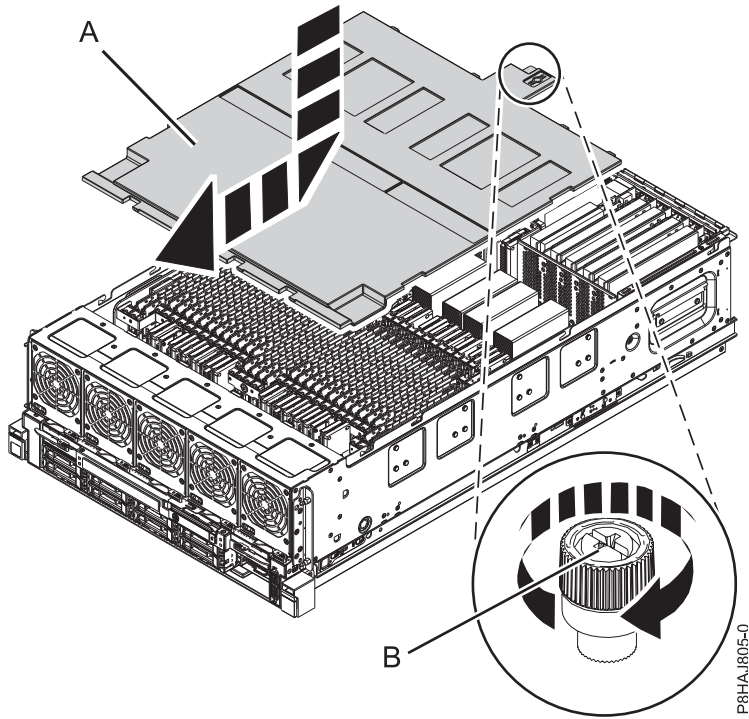

Figure 31. Replacing the safety cover
2. Push the safety cover (A) toward the chassis.
3. Tighten the thumbscrew (B) by turning it in the direction shown in Figure 31 on page 44 to fix the safety cover to the chassis.